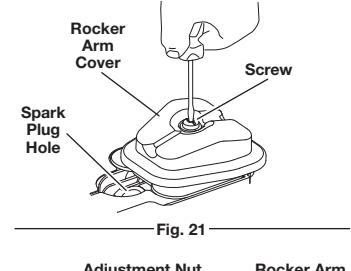

Fig. 21
- Remove the screw holding the rocker arm cover with the appropriate tool (Fig. 21). Remove the rocker arm cover and gasket.
- The piston is at the top of its travel by looking in the spark plug hole (Fig. 21)
- Reinstall the rocker arm cover using a new gasket (Fig. 21). Torque the screw to: 20–30 in-lb (2.2–3.4 N·m).